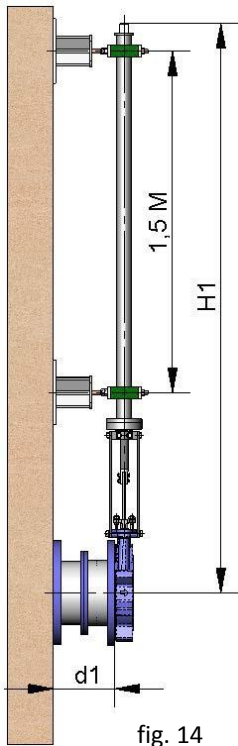

fig. 14
**2 - Extension: Pipe (fig. 14)**